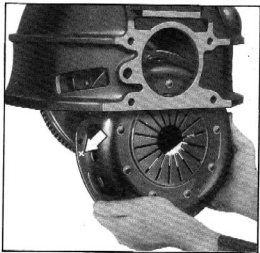

Fig. 10—Installing Clutch Assembly
4. Hand-crank the engine until the "X" mark on the flywheel is at the bottom. Now install the clutch disc, pressure plate, and cover assembly and support them with the clutch pilot tool. Turn the clutch assembly until the "X" mark on the clutch cover registers with the "X" mark on the flywheel. (Fig. 10.) Then install the bolts, tightening them each a turn at a time to prevent distorting the cover as the spring pressure is being taken up. Remove the clutch pilot tool.